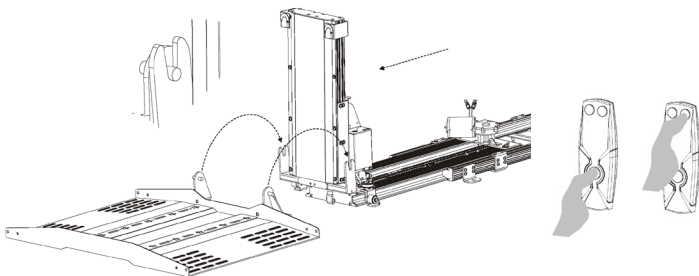

Figure 4-41
2. Press the power button and run the lift out to attach the platform. The Power button must be pressed to enable the hand control to operate. At which time, buttons will light up and front LEDs will act as a flashlight. If no button is pressed after approx. 2-minutes, the hand control will turn off automatically. To turn the hand control back on, the power button will have to be pressed again. With the lift in the out position, hook the platform onto the side flanges of the lifts tower. *See Figure 4-41.*